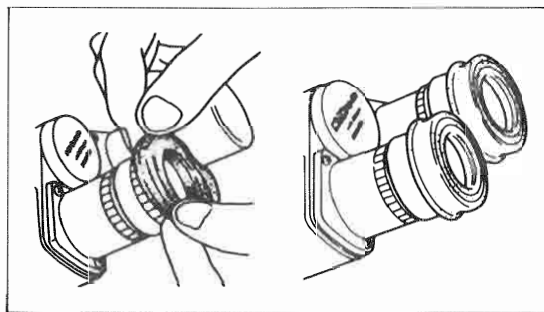

Fig. 9
- (3) CF eyepieces feature high eyepoint, which provides comfortable observation for even those who wear eyeglasses. The rubber eyeguards may be folded down when wearing eyeglasses. (Fig. 9).